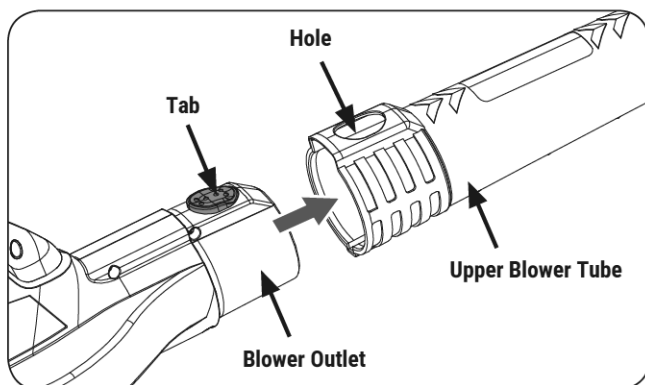

Figure 8
1. Place the unit on a flat and level surface, align the tab on the blower outlet with the hole on the upper blower tube, then push the Blower outlet into the upper blower tube until the tab snaps firmly into the hole. (See **Figure 8**)